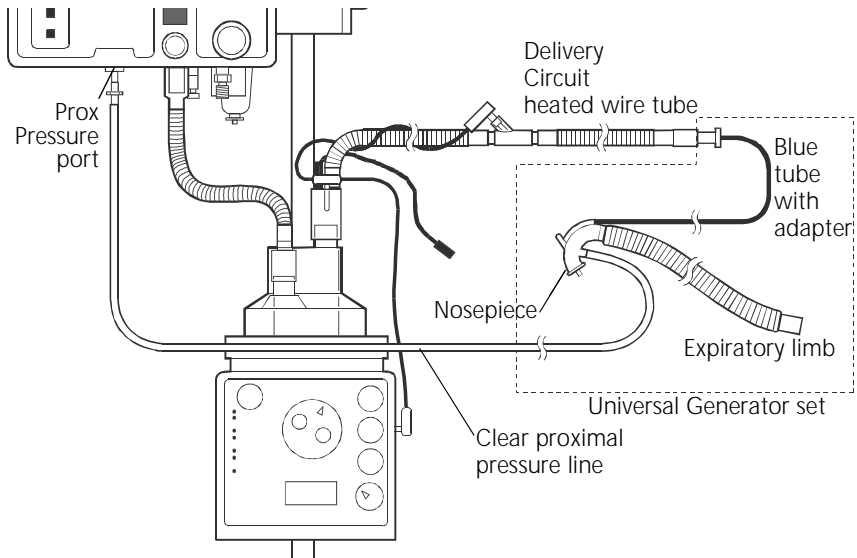

Figure 3-2. Connecting the Universal Generator set
1. Attach the Universal Generator set to the Delivery Circuit (Figure 3-2). The clear proximal pressure line goes to the Monitoring Gas Mixer Prox Pressure port. The blue tube with adapter goes to the tube with heated wire.